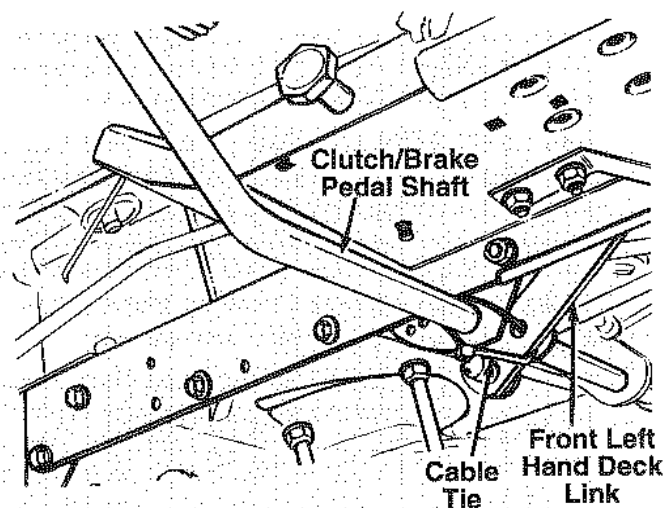

FIGURE 13.
- Secure the front left hand deck link to the clutch/brake pedal as shown in figure 13 using the cable tie (AY).